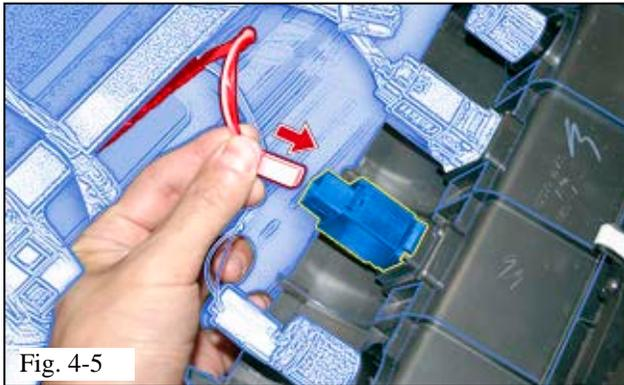

Fig. 4-5
- (f) Connect the Vehicle 4P Pre-Connector to the GBS Microphone (Fig. 4-5)